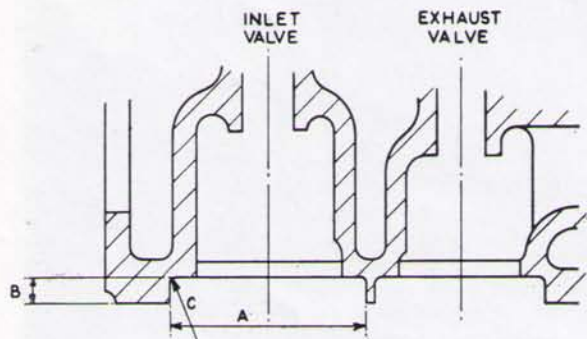

Fig. H.9.
3. Using a suitable cutting tool, the old seats should be cut away to the dimensions shown in Fig. H.9. Care should be taken that the cutting is clean, and that all the swarf is removed.